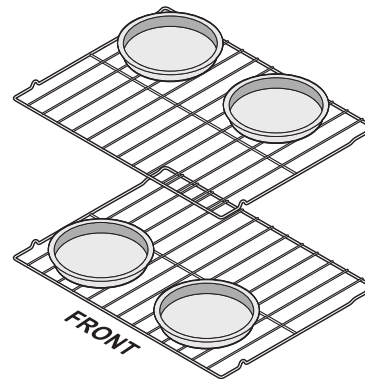

Figure 19: Pan placement
- For best results when baking layer cakes using two oven racks, place racks in positions 3 and 5 and place pans as shown in Figure 19.